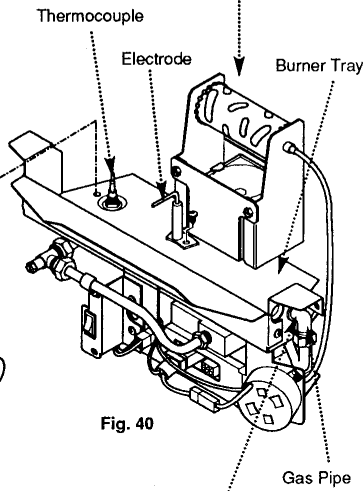

Fig. 40
1. Undo the screw retaining the spark electrode to the burner tray (Fig. 40).
5. Undo the union nut connecting the gas pipe to the injector (Fig. 40).